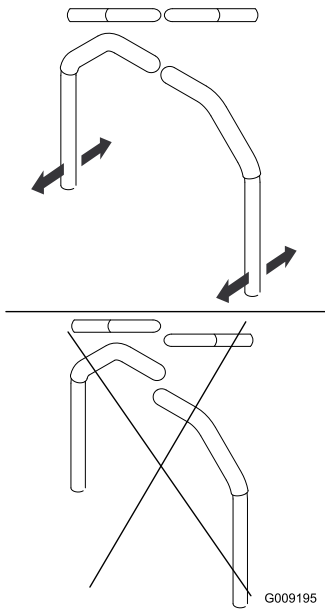

Figure 74
4. Align the levers front to rear position by bring the levers together to the neutral position and slide them until they are aligned, then tighten the bolts (Figure 74).